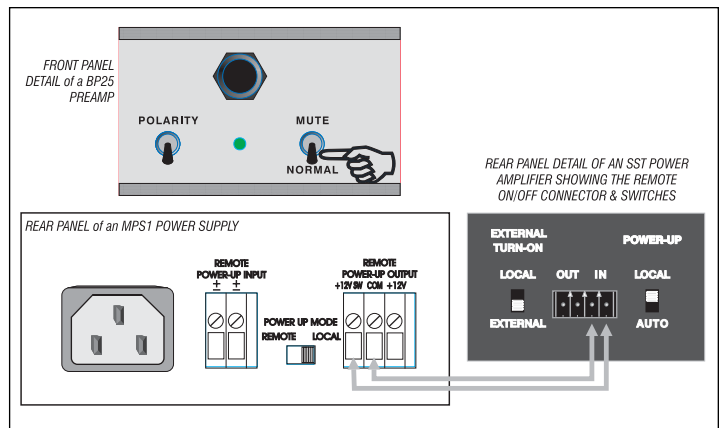

Figure 2: Turning "SST" power amps on & off via the BP20/25 MUTE switch
- 2nd) Put the amplifiers "EXTERNAL TURN ON" switch in the **EXTERNAL** position for the amplifier to respond to remote control turn-on signals (see figure 2).